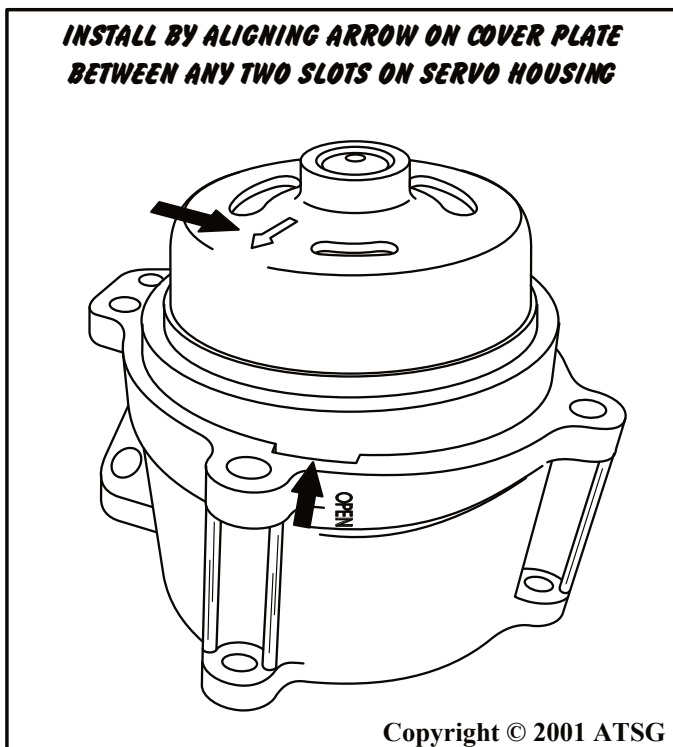

Figure 126
12. **Caution:** *The arrow on the cover plate must be aligned evenly between any two slots on the reverse servo housing (See Figure 126).*